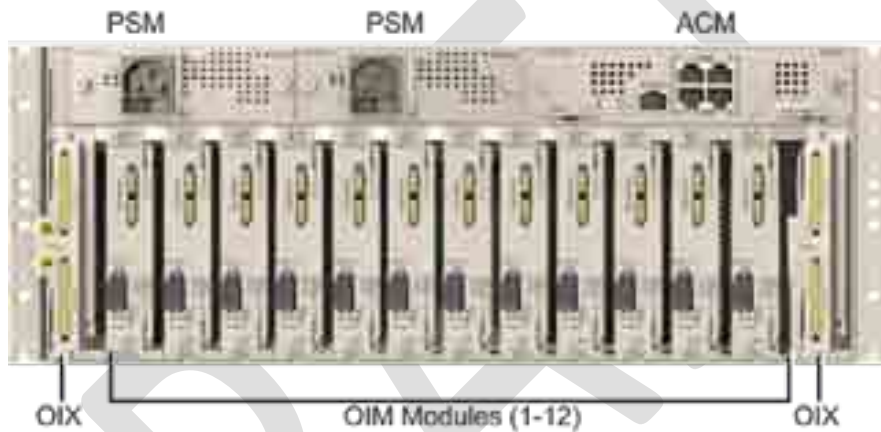

Figure 5-25. Location of OIU Front Panel Modules in Chassis
1. Remove blank panel (where relevant) and slide in the relevant module (chassis slots are 100% mistake proof). Refer to Figure 5-25 for module locations.